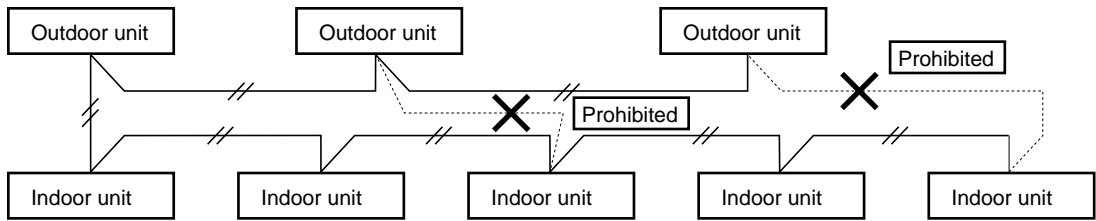

Fig. 5-1
- (1) When linking outdoor units in a network (S-net link system), remove the short plug (CN031, 2P Black, location: right bottom on the outdoor control PCB) from all outdoor units except any one of the outdoor units. Otherwise the communication of S-net link system does not perform. For a system without link (no connection wiring between outdoor units), do not remove the short plug.
- (2) Do not install the inter-unit control wiring in a loop. (Fig. 5-1)